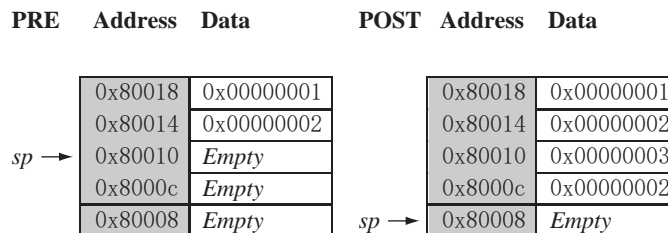

Figure 3.8 STMED instruction—empty stack push operation.
**EXAMPLE** In contrast, Figure 3.8 shows a push operation on an empty stack using the *STMED* instruction. The *STMED* instruction pushes the registers onto the stack but updates register *sp* to point to the next empty location.